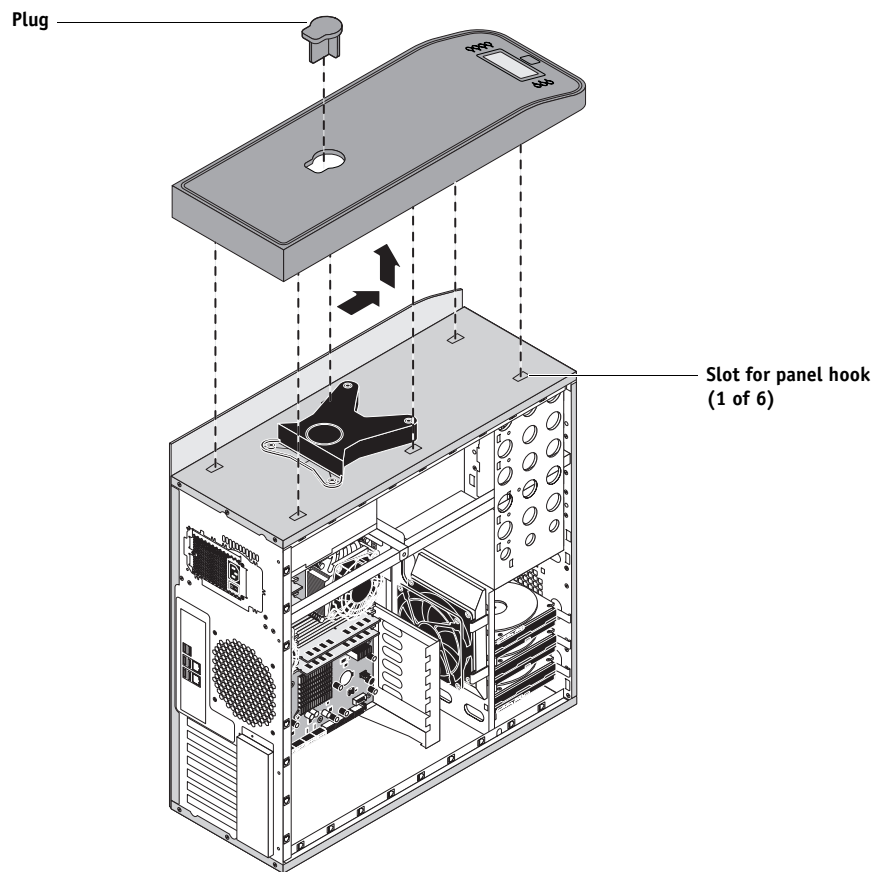

FIGURE 21: Removing/replacing the top panel
2. Loosen the panel (see Figure 21).
6. Position the top panel on top of the chassis (see Figure 21 on page 67).